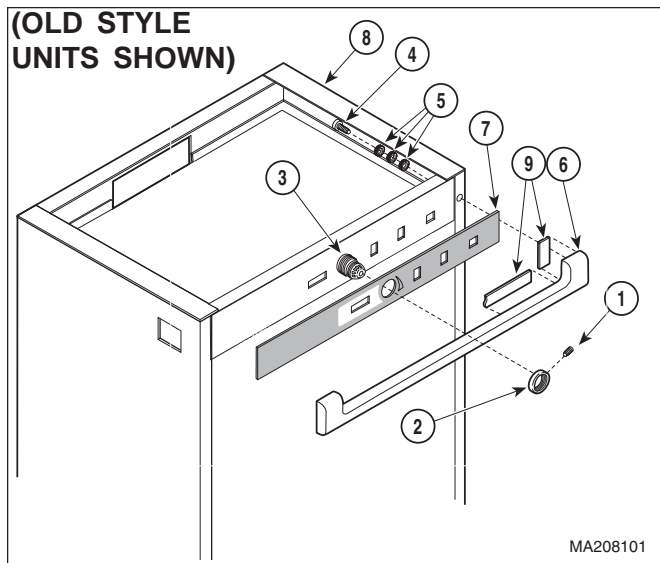

Figure 4-9. Control Decal Removal / Installation
- (1) Remove control box cover (Refer to para 4.1).
- (2) Remove POWER ON/STANDBY switch (Refer to para 4.3).
- (3) Remove VACUUM ON/OFF switch (Refer to para 4.4).
- (4) Remove PRESSURE ON/OFF switch (Refer to para 4.5).
- (5) On newer units, loosen setscrew (1, Figure 4-9).
- (6) Remove panel mount nut (2) from regulator (3).